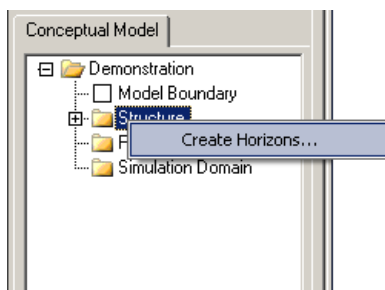

Figure 31 Create horizons
- ☞ **Create Horizons** from the pop-up menu (Figure 31)